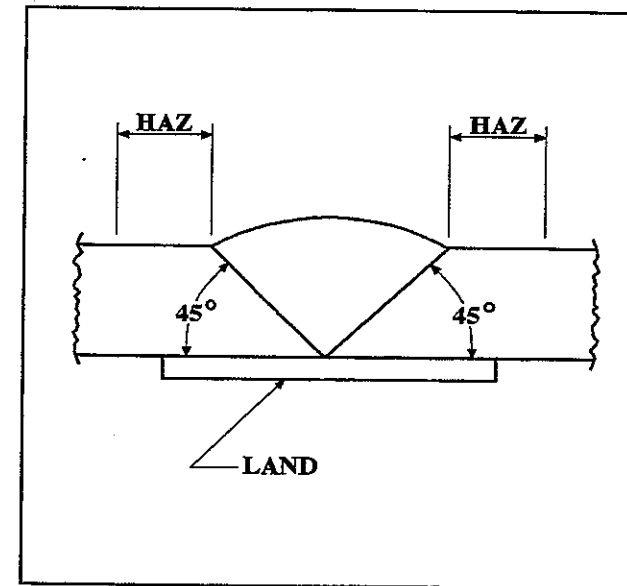

Figure 4—Frame Weldment
- Weld procedure using mig (GMAW). (See Figure 4—Frame Weldment.)